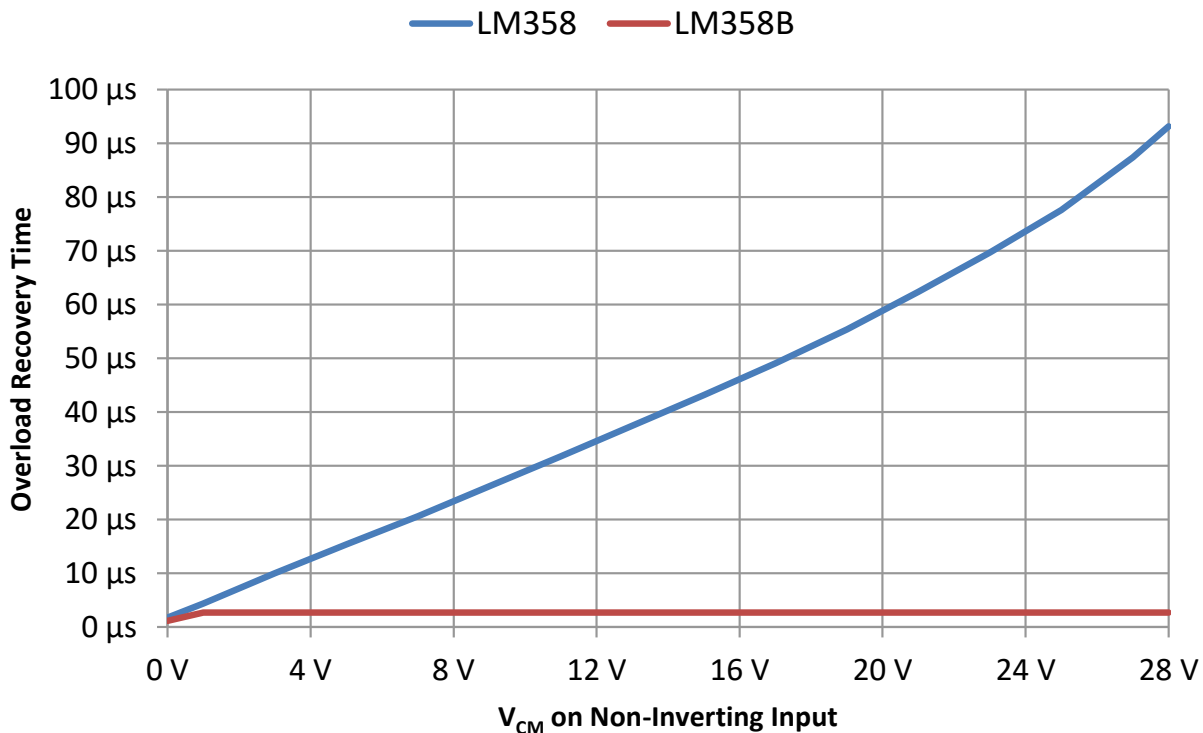
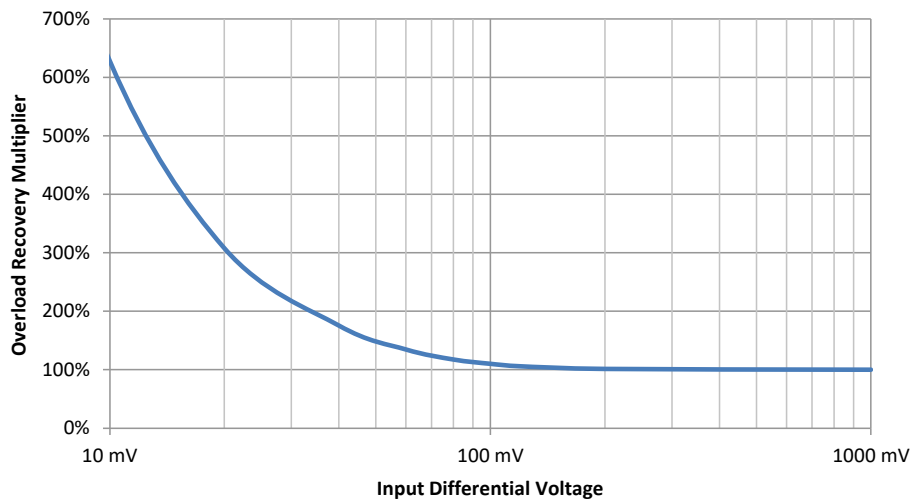

Figure 6-1. Overload Recovery Time from V_{OL} vs V_{IN+} , $V_{ID} = 200 \text{ mV}$, $V_{CC} = 30 \text{ V}$
Figure 6-3. Overload Recovery Multiplier vs Input Differential Voltage (V_{ID})
Overload recovery time is analogous to comparator propagation delay. Overload occurs when an op amp's input voltage difference is large enough such that the output reaches either the V_{OL} or V_{OH} level and the output no longer changes with variations in the input. Some internal node voltages will continue to change even though the op amp output is not changing. The overload condition ends when the input voltage difference is reduced to a point where the op amp returns to a linear operating region or the input voltage polarity is reversed. After the overload condition is removed, there is a finite time delay before the output can change from the V_{OL} or V_{OH} level. This delay is the overload recovery time. The data sheet does not specify an overload recovery time parameter. The recovery time when the output is at the V_{OH} level is approximately 2 μs , regardless of the common mode voltage. The recovery time when the output is at V_{OL} varies with the common mode voltage present at the non-inverting input as seen in Figure 6-1.
In addition to the overload recovery time of 2 μ s from the V_{OH} state or the overload recovery time in Figure 6-1 from the V_{OL} state, the input voltage difference applied during the input recovery time is also a factor in the actual recovery time. One can multiply the internal factor time (2 μ s or the time from Figure 6-1) by the scalar value in Figure 6-3 to get the final expected recovery time. V_{ID} is the voltage applied while waiting for the recovery time.
For example, assume the LM358 output is in a V_{OL} state, the non-inverting input is 10 V, and the inverting input is 10.05 V. If the inverting input suddenly drops to 9.98 V, then the output will start increasing after approximately 90 μ s. The input common mode was 10 V, which makes the overload recovery time 30 μ s, per Figure 6-1. The input difference is 10 V – 9.98 V = 20 mV which makes the multiplier 300%, per Figure 6-3. Multiply the two values; 30 μ s \times 300% = 90 μ s. Later when the inverting input suddenly rises back to 10.05 V, the output will start decreasing after approximately 3 μ s. The output was V_{OH} , so the recovery time is 2 μ s. The input difference is 10.05 V – 10 V = 50 mV, which makes the multiplier 150%, per Figure 6-3. Multiply the two values; 2 μ s \times 150% = 3 μ s.
Slew rate (SR) limits the output rise and fall times, which are defined as $(V_{OH} - V_{OL})/SR$. Slew rate, as specified in the op amp data sheet, is applicable for large differential input voltages. Dedicated comparator parts, on the other hand, may have much smaller differential input voltages. Note that the slew rate is reduced when the input difference voltage is small. Figure 6-3 shows that an input difference of 100 mV provides a slew rate 90% as fast as the data sheet setup result and a 10-mV input difference voltage has a slew rate that is only 16% of the data sheet slew rate.